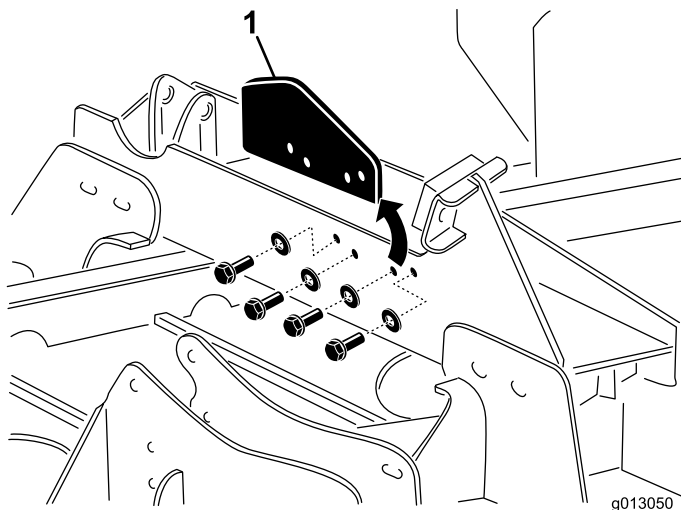

Figure 4
- Remove the (4) bolts and washers securing the base mount and deck stop, if so equipped, to the deck connection bracket (Figure 4). Discard deck stop.